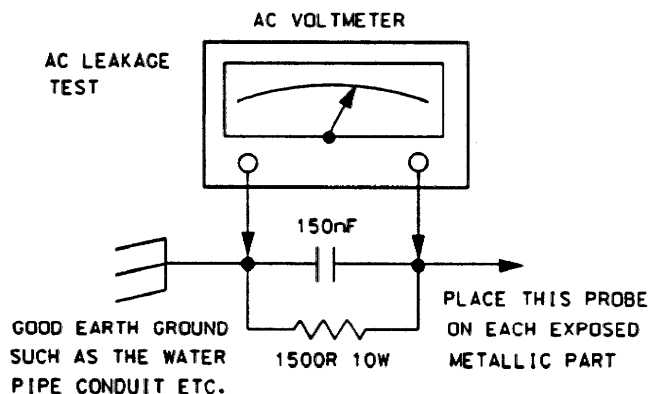

Figure 3-2. AC Leakage Test
- Connect a 1500 Ω , 10 watt resistor in parallel with a 150nF AC capacitor between a known good earth ground and each exposed metallic part, one at a time. With an AC voltmeter having a minimum sensitivity of 1000 Ω /V, measure the voltage across the 1500 Ω resistor. See Figure 3-2 below. The rms voltage measured **MUST NOT EXCEED 5.25V rms** (equivalent to 3.5 mA rms current). Values exceeding this limit are potential shock hazards. Correct immediately!